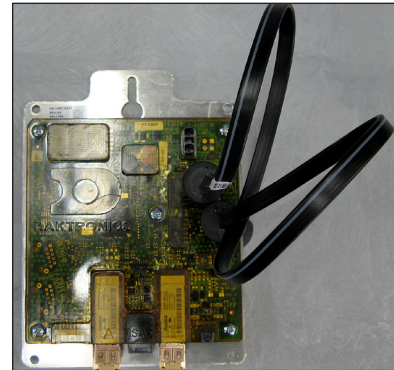

Figure 28: ProLink Router Connected For Self-Test
1. Connect a duplex fiber cable from Fiber Port A to Fiber Port B. Refer to **Figure 28**.